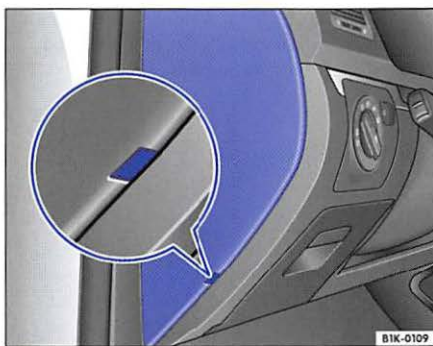

Fig. 32 Dash panel, left: cover of fuse box A
- Insert a suitable flat object (e.g. a screwdriver) into the recess ⇒fig. 32 and carefully pry the cover off.